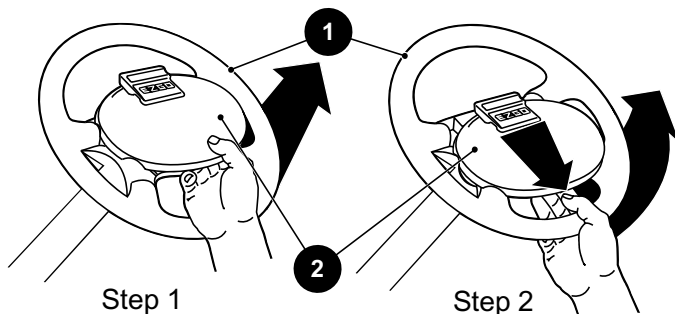

Figure 6 Clipboard Removal
1. Pull straight up on the lower edge of the clipboard (2) to release the two retaining tabs (Figure 6).
2. Using thumb for leverage as shown, reach from underneath the steering wheel (1) with fingertips to pull down, and then push up to release the two top clipboard (2) retaining tabs.